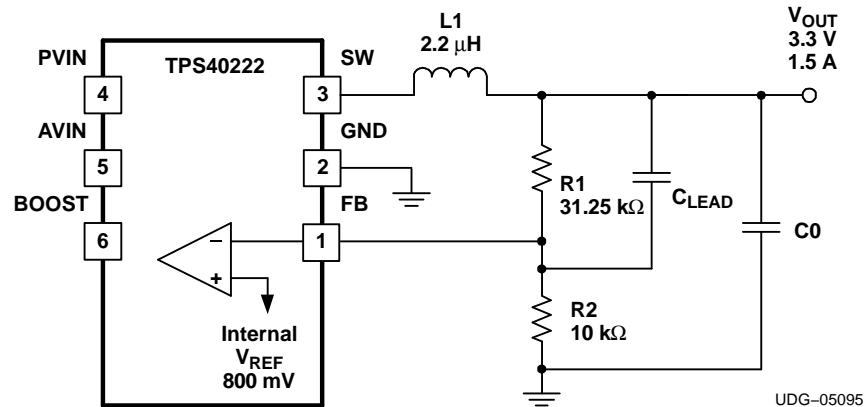

Figure 10. Output Stage
Since the loop compensation is internally fixed and cannot be changed, loop stability can only be controlled by the proper choice of output inductance and capacitance. Table 2 provides a shortcut guide to this selection and recommended capacitance to maintain a safe 50 degrees of phase margin for various inductors and output voltages. The table also shows the minimum capacitance for 50 degrees of phase margin at three temperatures, with the worst case for stability at -40°C. The granularity of the table is sufficient so the user can interpolate between values to find a specific operating condition. The table values assume a full load, which is also the worst case for phase compensation. As an example of using the table, consider a 2.5-V output converter with a 2.2-μH inductor. The table shows that a minimum of 15-μF of output capacitance is required to guarantee greater than 50 degree of phase margin at the worst case temperature of -40°C. With a lead capacitor (C_{LEAD}) added to the feedback as shown in Figure 10, this minimum capacitance increases to 26-μF and the closed-loop frequency increases by about 20%.
(1) See Figure 10.
(2) For $V_{OUT} > 3.3\text{ V}$ use an inductor with a value greater than or equal to 2.2 μ H.
In most applications, the user starts with a known output voltage and current load requirement as shown in Figure 10.
As shown in Figure 10, the trimmed reference voltage is internally connected to the error amplifier. Since the input bias current to this error amplifier is negligible. The feedback resistors R1 and R2 can be selected over a broad range limited by the low bias current into the error amplifier. With this restriction in mind, R2 was selected at 10 kΩ, so its current is 80 μA and large relative to the bias current of the error amplifier. The output voltage is then given by Equation 4.